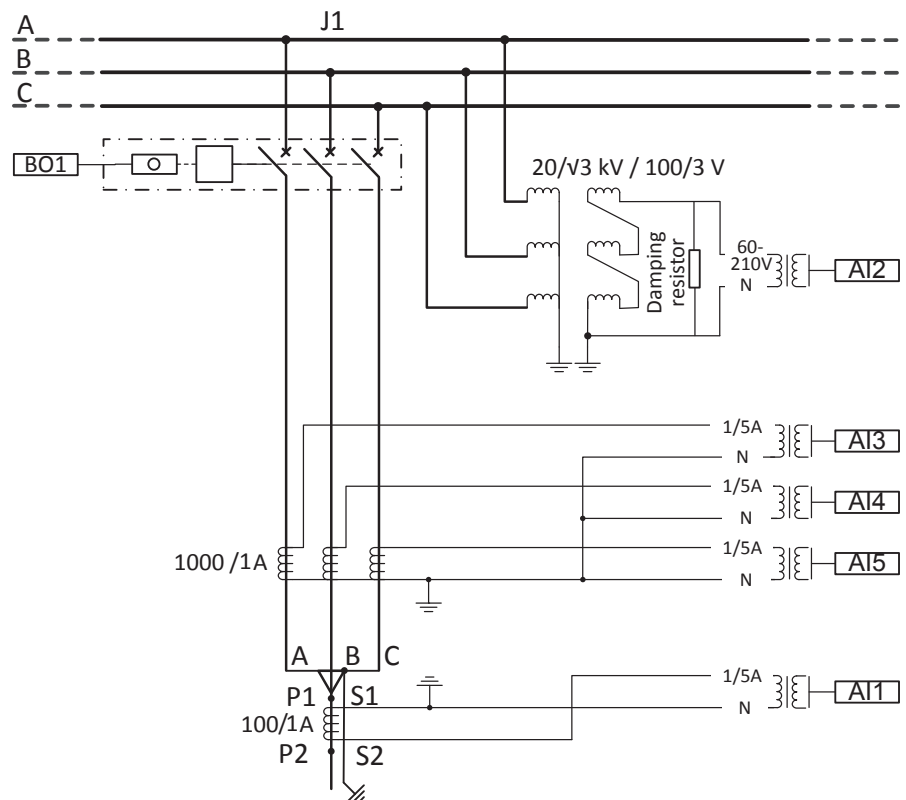

Figure 10: Relay interfaces and CT/VT connections for the example case
**Figure 10** shows the connection details of the relay's analog inputs (AI) and binary outputs (BO). The CT and VT connections required for realizing the example case are also shown in the figure for the MFADPSDE protection of feeder J1. A CBCT should be used for measuring the residual current. The residual voltage  $U_0$  is typically measured with open-delta connected VTs.